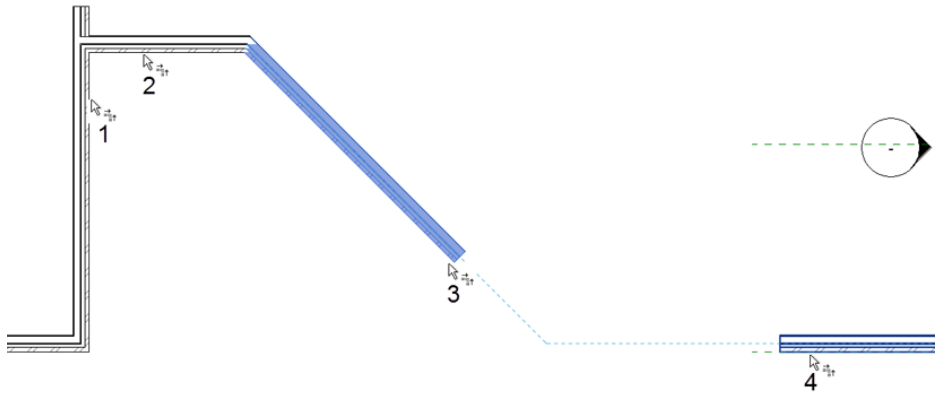

FIGURE 2.15: Using the Trim command to join the corners
2. The next step is to select the walls in the sequence and in the spots as shown in Figure 2.15.